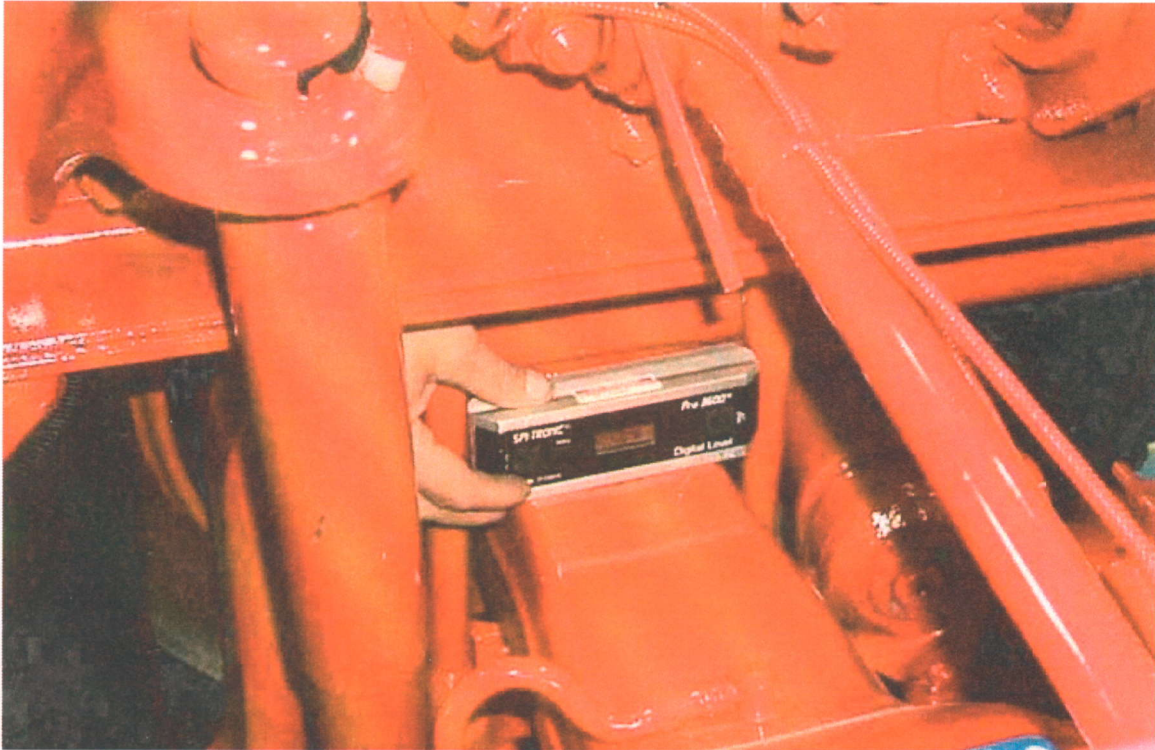

Figure 9 Illustration of Using an Inclinometer to Determine Forward Rear Axle Angle
18. Measure and record the forward rear axle angle at either the top or bottom of the housing, near the axle seat, on the long side of the axle, with the inclinometer oriented inboard as shown in Figure 9 .
21. Remeasure and record the forward rear axle angle (now with respect to the true horizontal) at either the top or bottom of the housing, near the axle seat, on the long side of the axle, with the inclinometer oriented inboard as shown in Figure 9 .